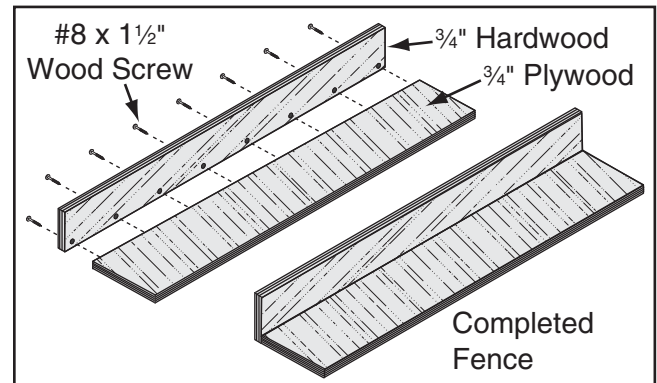

Figure 92. Location of pilot holes.
2. Pre-drill and countersink eight pilot holes $\frac{3}{8}$ " from the bottom of the 3" wide board, then secure the boards together with eight #8 x $1\frac{1}{2}$ " wood screws, as shown in **Figure 92**.